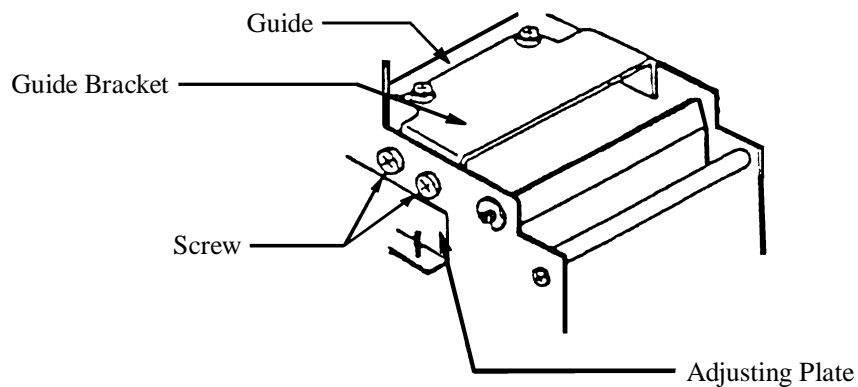

Fig. 5.2
5.3.3 Release the guide bracket (part no. 27) by slackening the four securing screws. See Figure 5.2.